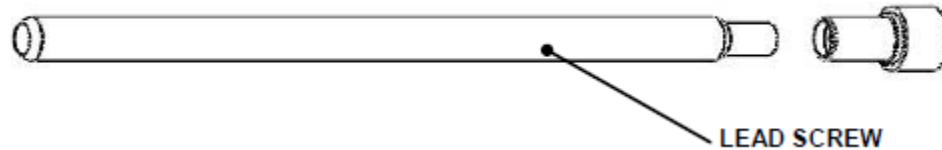

Figure U-22: Lead Screw from Syringe Motor
2. Using alcohol, degrease the end of the lead screw from the Syringe Motor (Figure U-22). Thread the Dispense Piston Assembly onto the lead screw using Loctite 262.